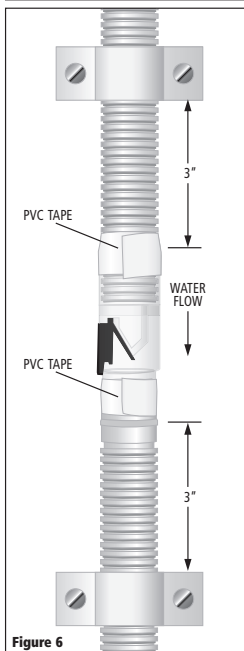

Figure 6
6. Wrap inlet and outlet connection with PVC Tape (**Figure 6**).